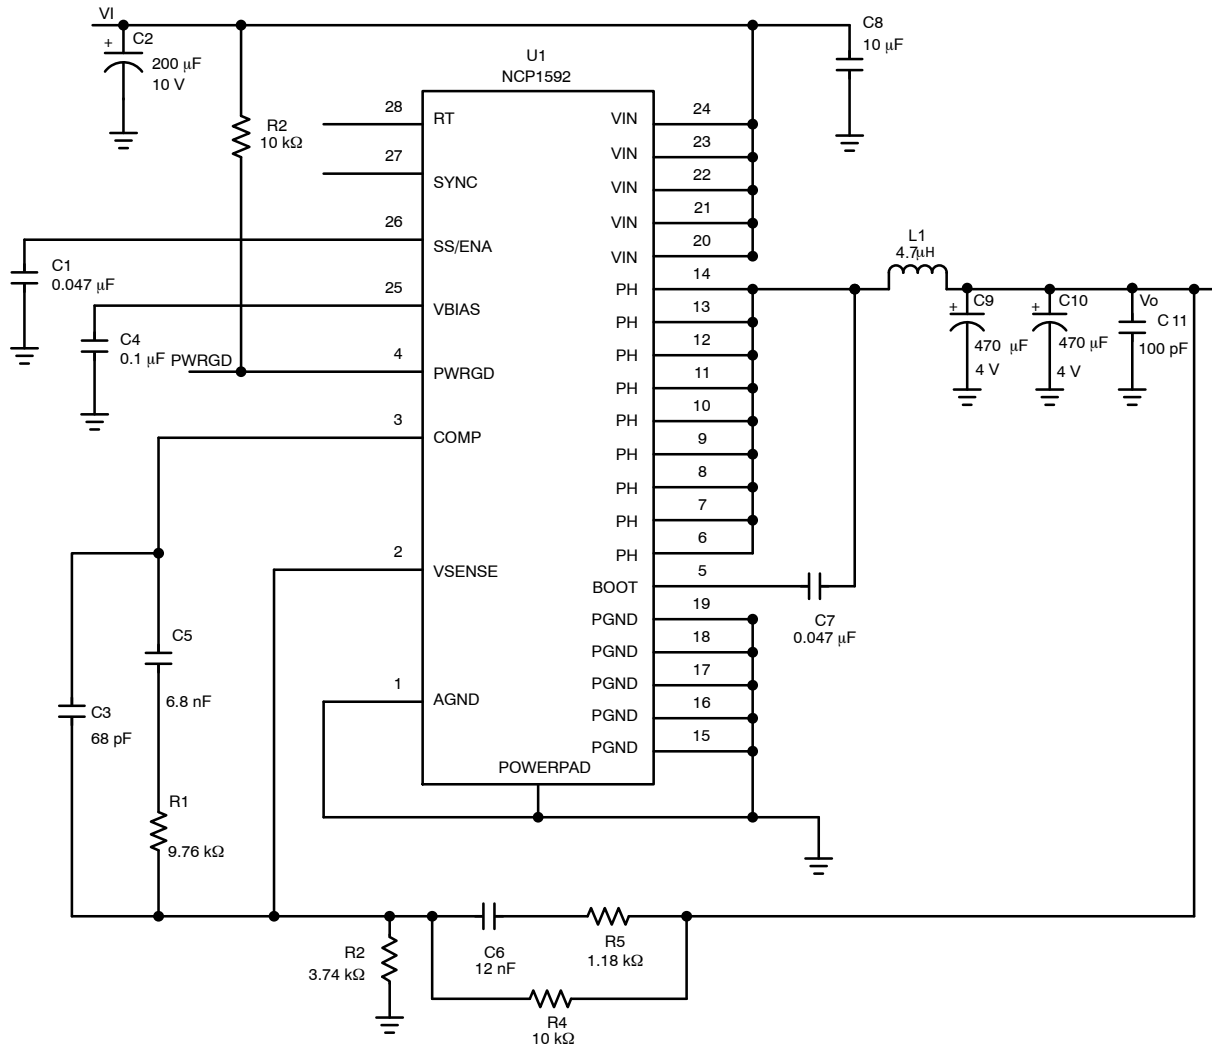

Figure 14. Application Circuit
7. Specified by the circuit used in Figure 14.
Figure 14 shows the schematic diagram for a typical NCP1592 application. The NCP1592 (U1) can provide greater than 6 A of output current at a nominal output voltage of 3.3 V. For proper thermal performance, the